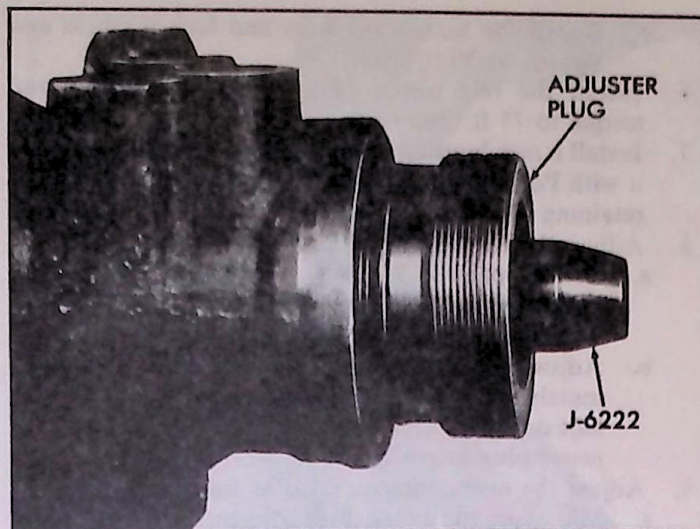

Fig. 58—Installing Adjuster Plug
3. Lubricate a new adjuster plug "O" ring with Power Steering Fluid and install in groove on adjuster plug. Place Seal Protector J-6222 over the stub shaft, then install the adjuster plug assembly in the housing until it seats against the valve body (fig. 58). Remove Seal Protector. Do not adjust the thrust bearing preload at this time.